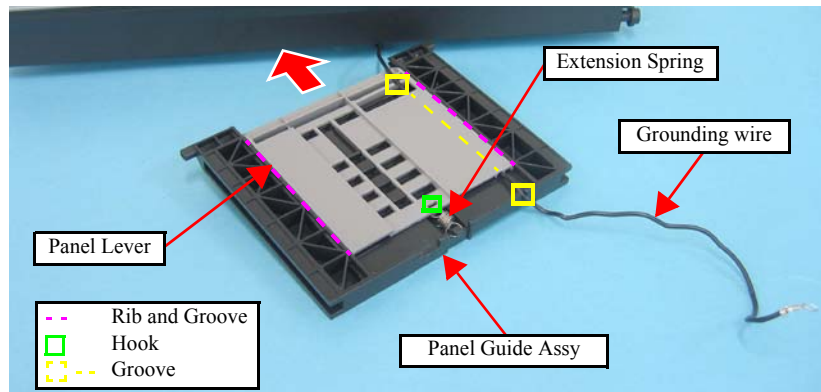

Figure 4-19. Removing the Panel Unit (4)
- Route the grounding wire through the three grooves of the Panel Guide Assy and Panel Lever as shown in Figure. 4-19.
- Install the Panel Lever, Align the ribs (x2) of the Panel Lever with the grooves (x2) of the Panel Guide Assy as shown in Figure. 4-19.